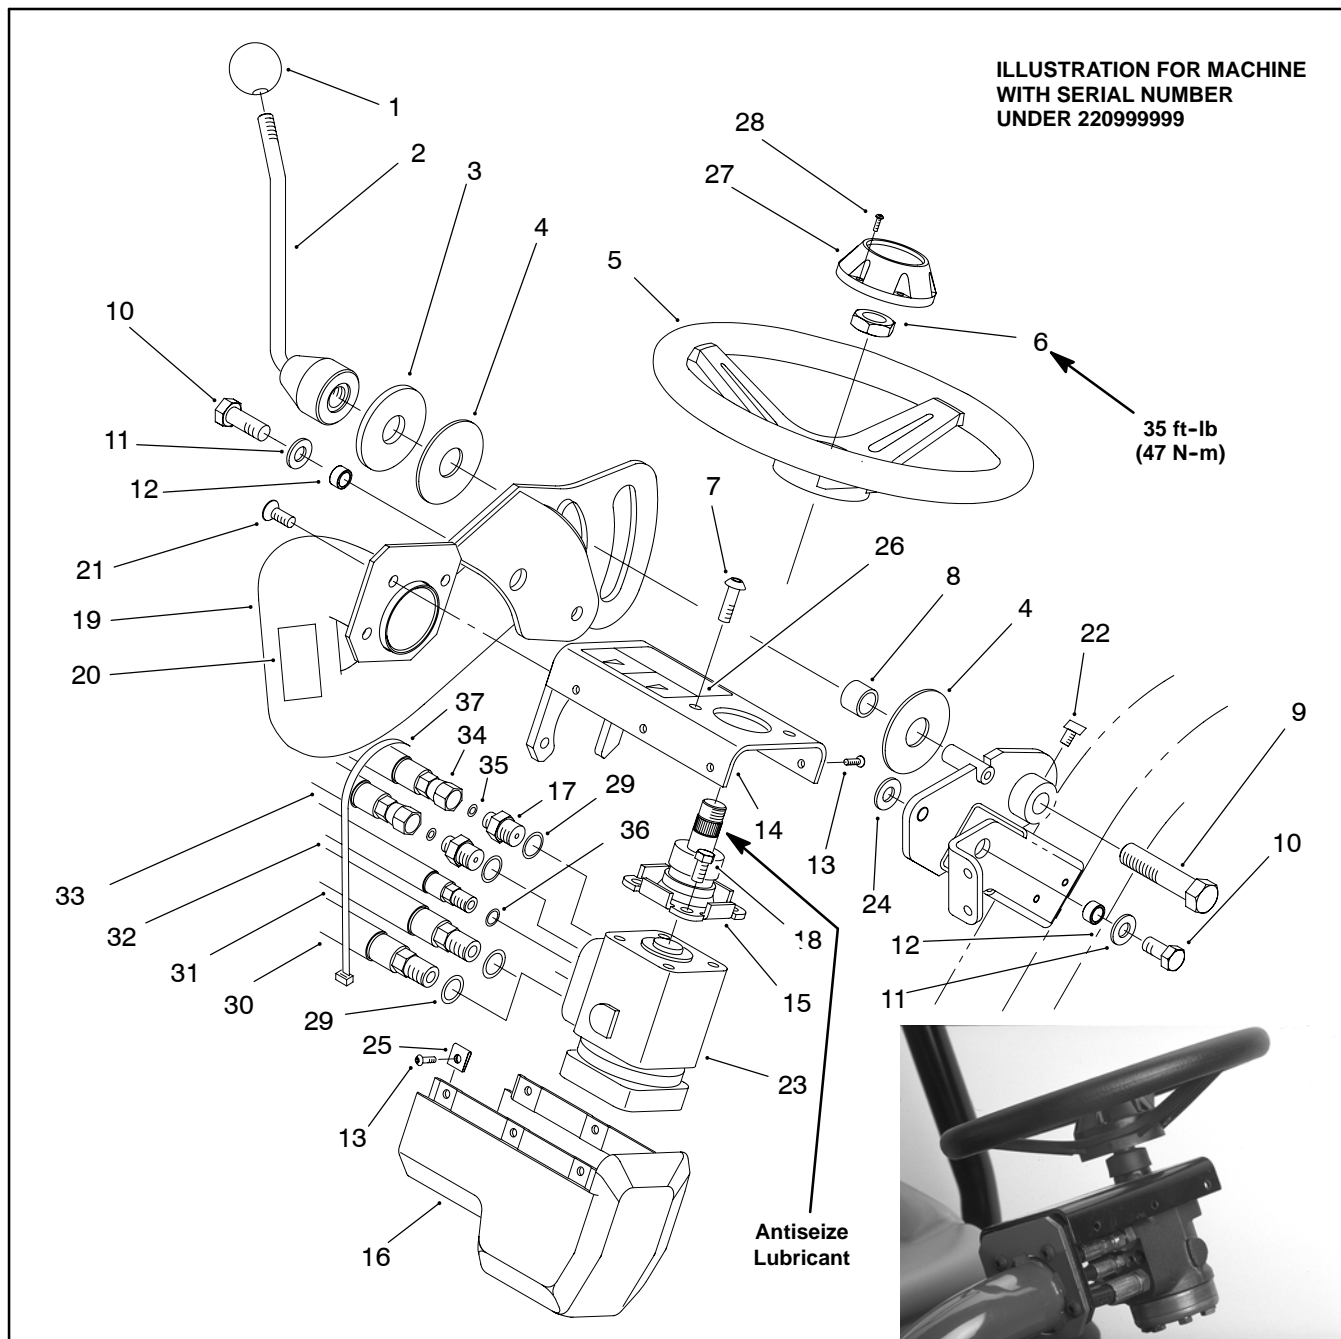
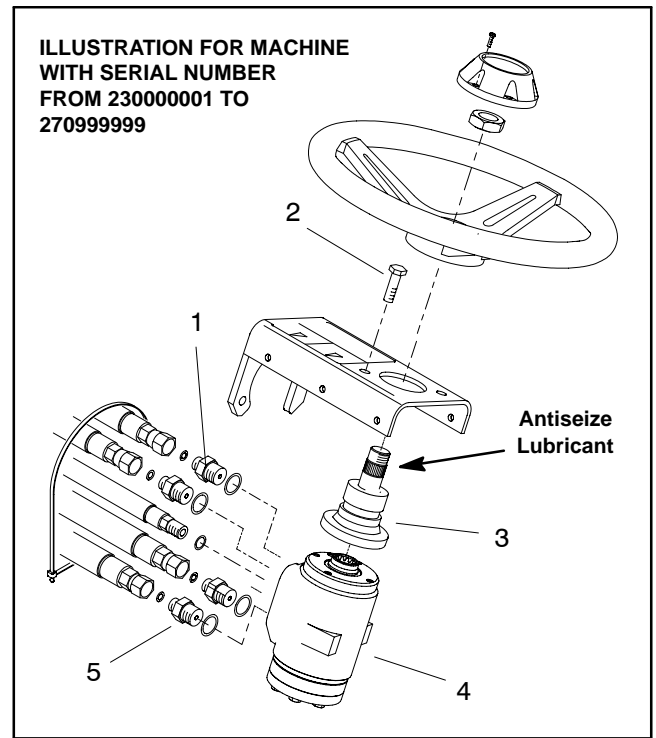
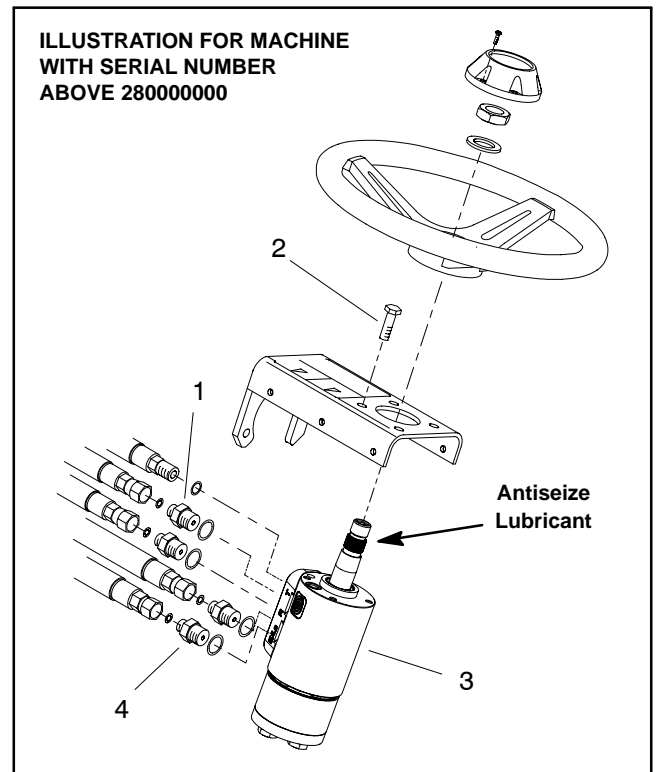

Figure 65
Figure 66
Figure 67
## Removal (Fig. 65)
2. Remove screw (28) and steering wheel cap (27) from the steering wheel (5).
3. Remove steering wheel nut (6) from the steering column assembly (15).
4. Remove screws (13) from the speed nuts (25) and steering valve cover (16). Remove cover from the steering cover assembly (14).
5. Cut and remove cable tie (37) from the hose assemblies. Label all hydraulic connections for assembly purposes.
**Note:** Three different styles of steering control valve have been used on Greensmaster 3250-D machines. Figure 65 illustrates machines with serial number under 220999999. Machines with serial number from 230000000 to 270999999 use four hydraulic fittings on the control valve (Fig. 66). Machines with serial number above 280000000 use a control valve without a steering column (Fig. 67). Use appropriate illustration as a guide when removing steering control valve.
### Installation (Fig. 65)